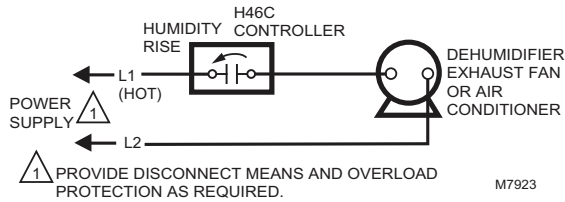

Fig. 2. Typical H46C wiring diagram.
5. Pull the wires from the switch box through the opening in the adapter plate and connect to the H46 leadwires with the solderless connectors provided. See Fig. 2 and 3 for typical hookup.
Disconnect power supply before connecting wiring to avoid electrical shock or equipment damage. All wiring must comply with local codes or equipment damage. All wiring must comply with local codes and ordinances. Do not exceed contact and coil ratings when wiring into system. See Fig. 2.